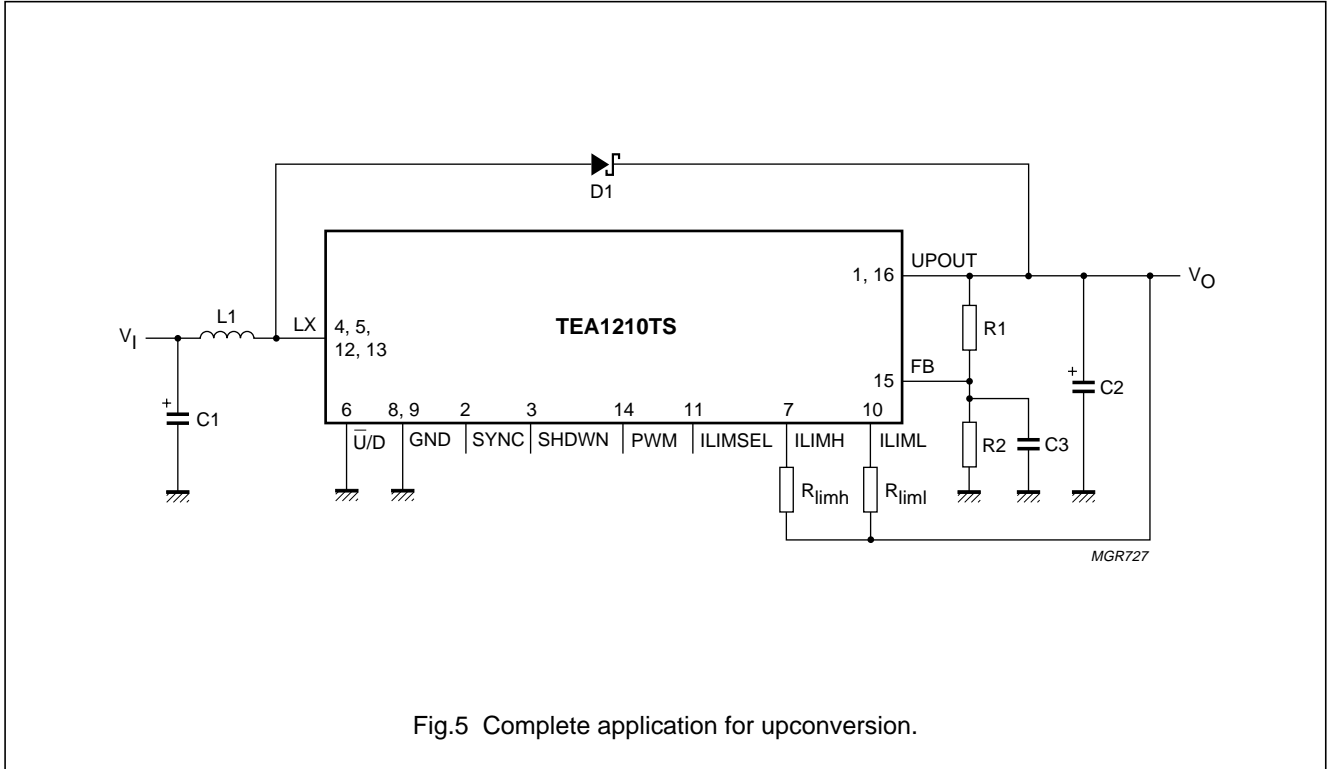

Fig.5 Complete application for upconversion.
- The quiescent current is specified as the input current in the upconversion configuration at $V_1 = 2.40$ V and $V_O = 3.60$ V, using $L_1 = 6.8$ μ H, $R_1 = 178$ k Ω and $R_2 = 93.1$ k Ω (see Fig.5).